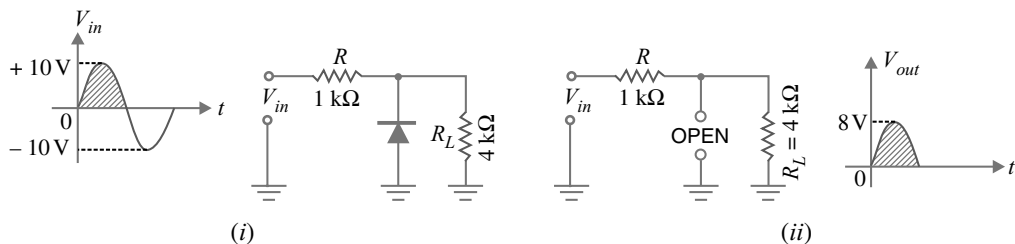

Fig. 16.36
**Example 16.13.** The negative shunt clipper shown in Fig. 16.36 (i) has a peak input voltage of  $+10 \text{ V}$ . What is the peak output voltage from this circuit?
**Solution.** When the diode is connected in parallel with the load, it is called a **shunt clipper**. During the positive half-cycle of input a.c. signal, the diode is reverse biased and it will behave as an open. This is shown in Fig. 16.36 (ii). With diode as an open,